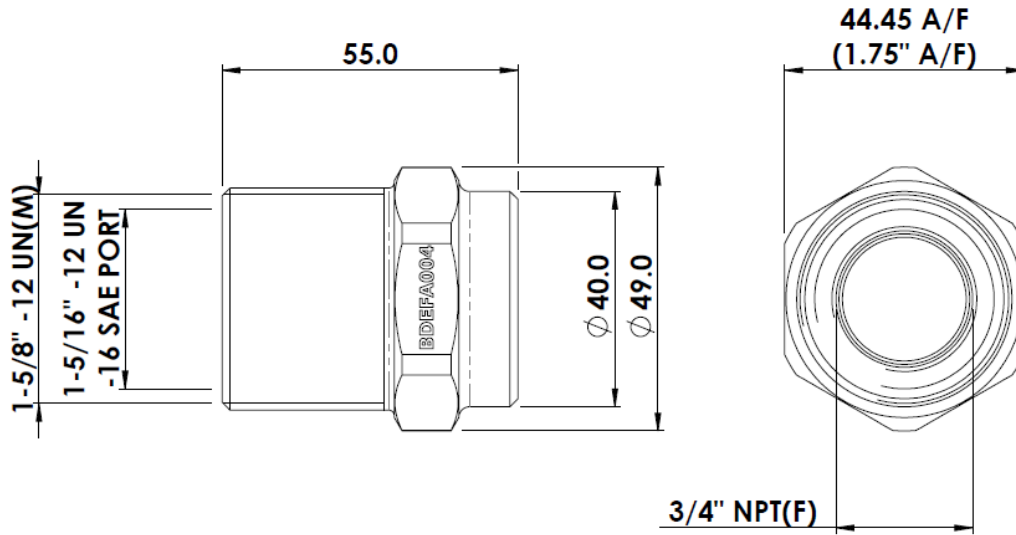

Figure 17 – Details of BDEFA004 Adaptor
| BDEFA004 (Figure 17) | Adaptor, DEF, Wiggins DEF receiver x ¾" NPT(M) | ¾" NPT(F) 1-5/8" -12 UN male 1-5/16" -12 UN female | Adapts Banlaw DEF receiver to replace Wiggins DEF receiver |